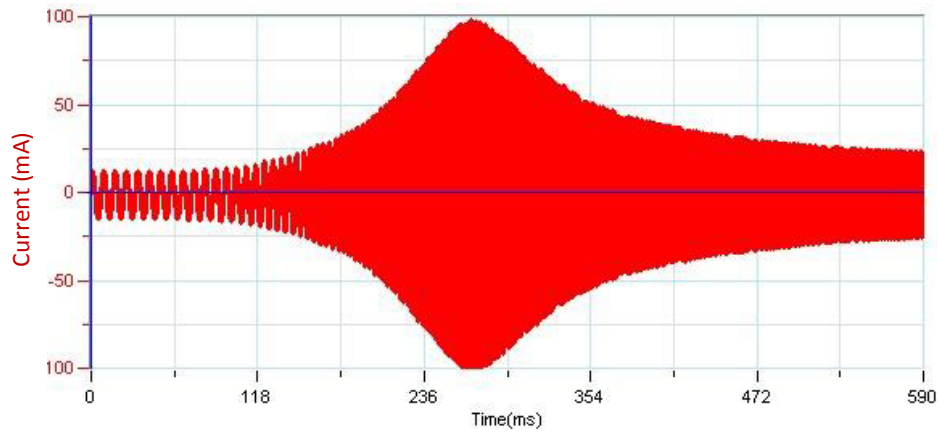

Figure 3
3. Estimate, using Equation (2), the value of the resonance frequency (1 kHz depending on the solenoid and the capacitor you selected).
7. You may want to repeat the experiment several times until you get satisfactory results. The voltage and the current will be displayed in the same window; we show them separately in Figures 3 and 4.